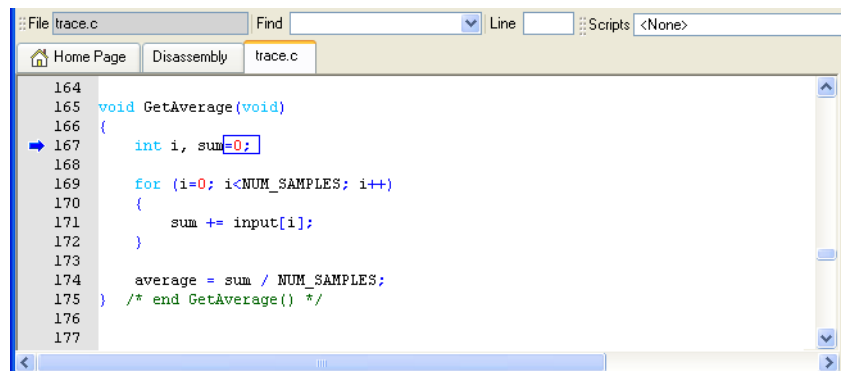

Figure 10-26 Source code corresponding to searched function
- Click the **trace.c** tab in the Code window. The current context is at the entry point to `GetAverage`. Figure 10-26 shows an example: